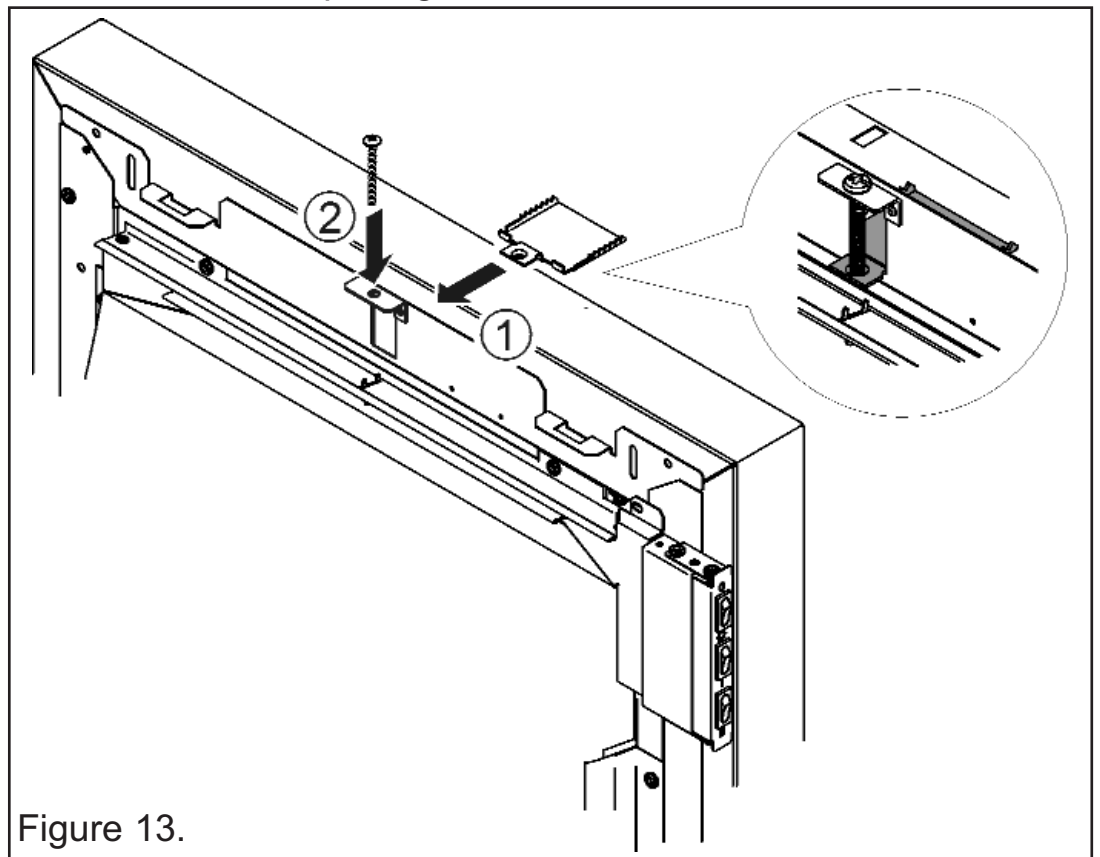

Figure 13.
1. Locate the clamp as in point 1 of figure 13. Place the screw through the upper bracket on the heater and locate into the clamp - point 2 of figure 13. It is only necessary to locate the screw, do not continue to turn it as this will elevate the clamp.